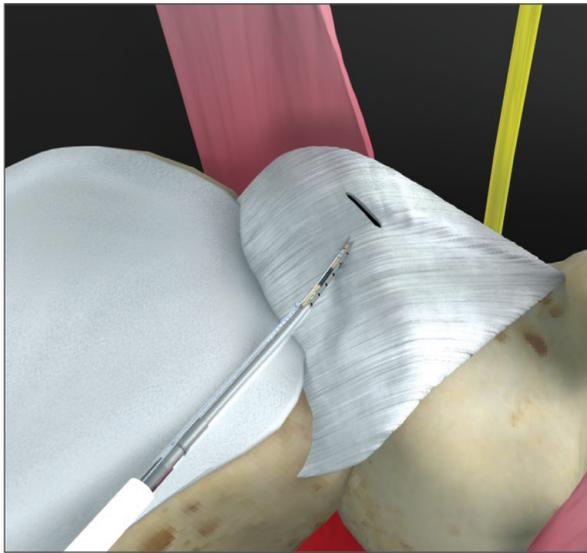
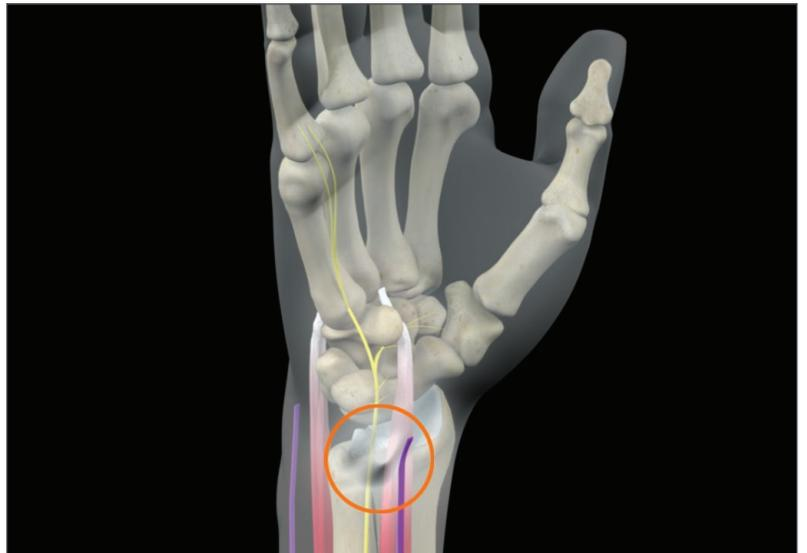
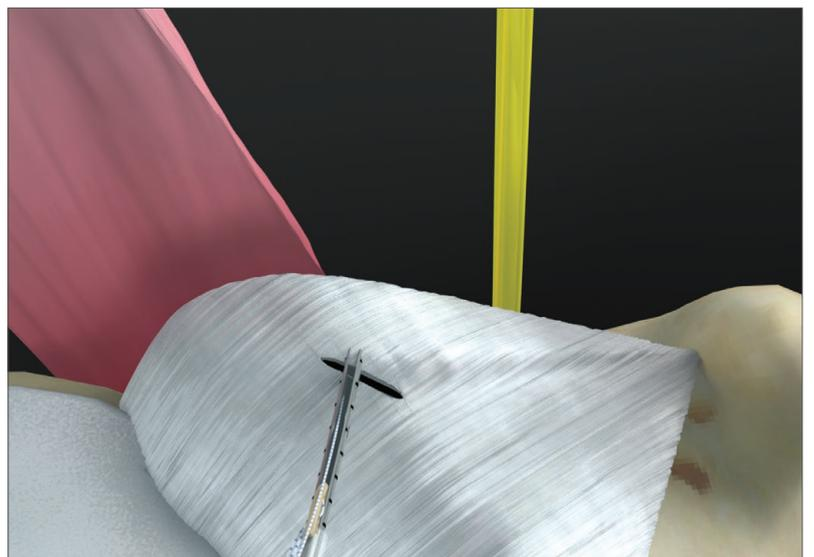

Figure 5
Figure 6
Figure 8
8. Grasp the orange handle on the delivery device and advance the needle through the articular disc of the TFCC, approximately 2 mm away from the tear site, and further advance the needle through the ulnar capsule. (See **Figure 5**) When the ulnar wrist capsule has been penetrated, a distinct decrease in resistance will be felt and a slight tenting of the ulnar skin may be observed. Ensure that tenting of the skin is in the target zone, as shown in **Figure 6**.
11. For a vertical mattress stitch (See **Figure 8**), advance the tip of the needle only through the ulnar capsule. When the ulnar wrist capsule has been penetrated, a distinct decrease in resistance will be felt and a slight tenting of the skin will be observed. Ensure that tenting of the skin is in the target zone. (See **Figure 6**, in Step 8)